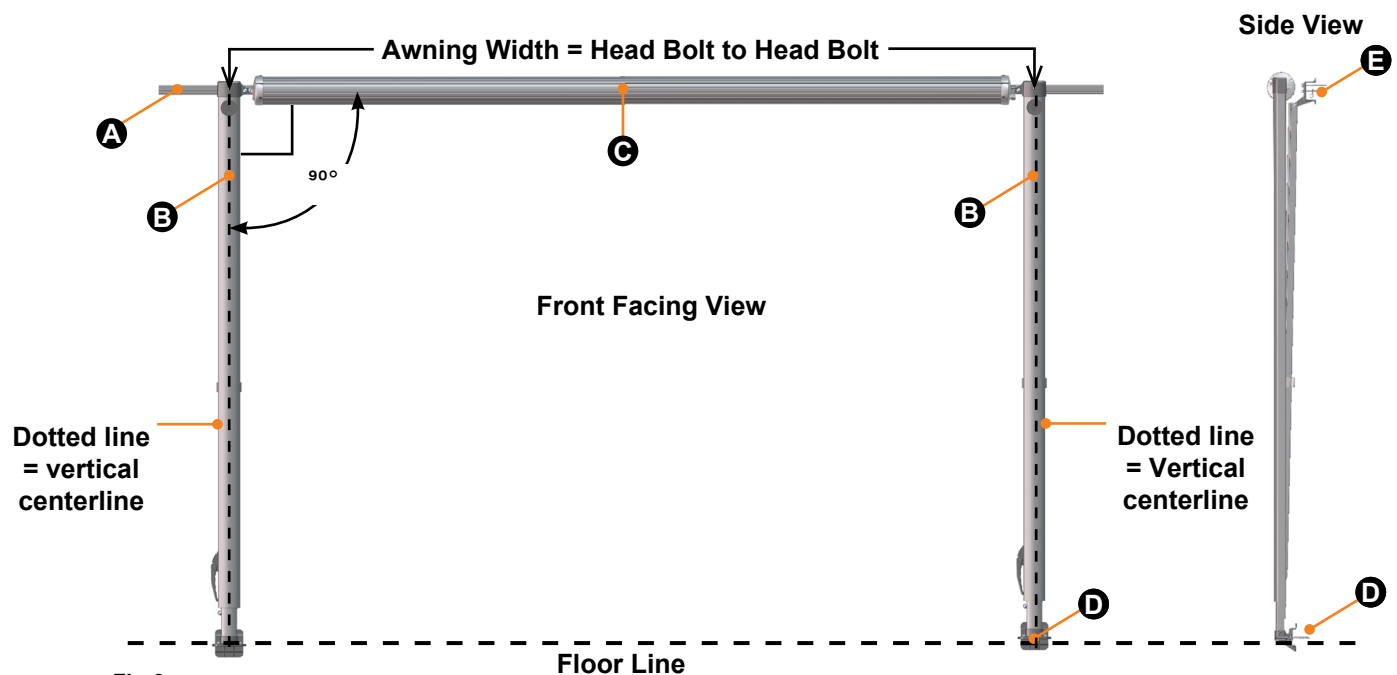

Fig.2
NOTE: The awning rail **MUST** be level and parallel with the floor line of the unit (Fig.2).
4. Measure and confirm the width of the awning. The distance is measured from head bolt to head bolt (Fig.2).
2. Using a non-permanent method of marking, mark a perpendicular line from the mark on the awning rail down to the floor line. This is the centerline of the support arm assembly (Fig.2). Do this for both support arm assemblies.
2. Make sure the centerline of the roll tube is level with or slightly higher than the centerline of the awning rail (Fig.2). The bottom of the roll tube **MUST** not be higher than the awning rail.